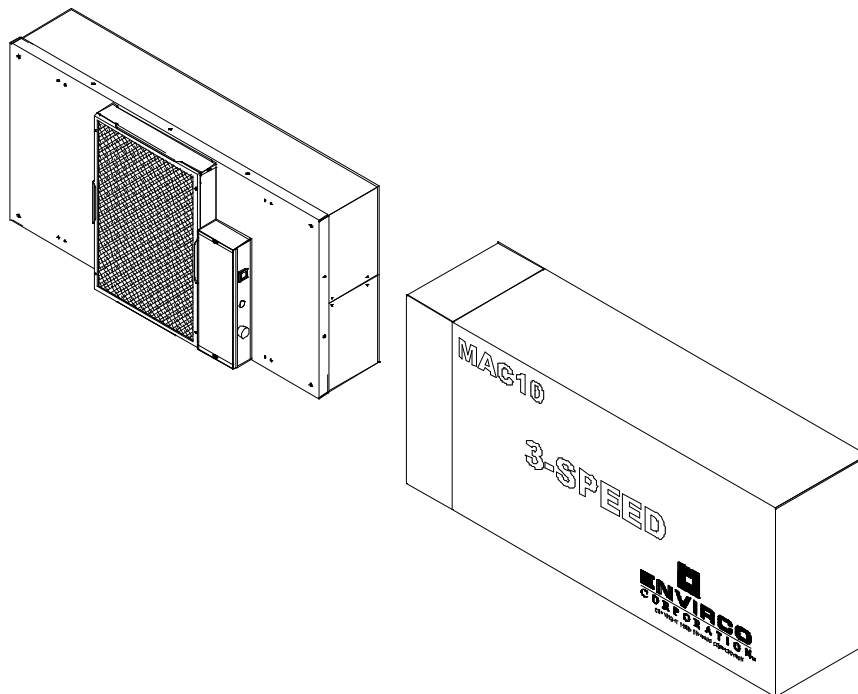

Figure 1 – Unit Uncrating
- Step 1.** Carefully remove the unit from the shipping carton and inspect for any damage that may have occurred during transportation. (See Figure 1)